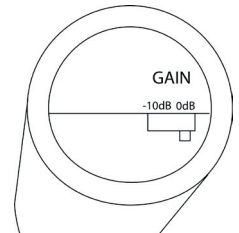

Figure 4.
- Access the Gain Adjustment Switch by unscrewing the microphone head. Use the tip of a pen or a small screwdriver to move the switch. (See fig. 4)